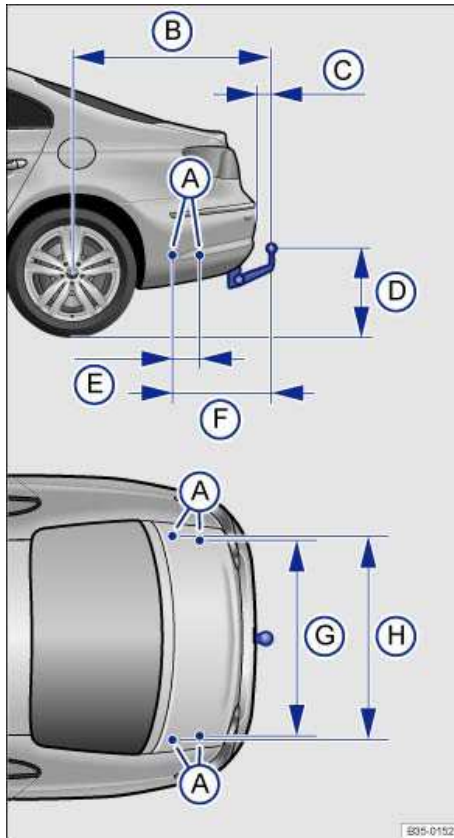

Fig. 104 Dimensions and attachment points for retrofitting a trailer hitch.
⇒ fig. 104 (D) be less than the specified minimum. This minimum height must be present even when the vehicle is fully loaded and subject to the maximum tongue weight.